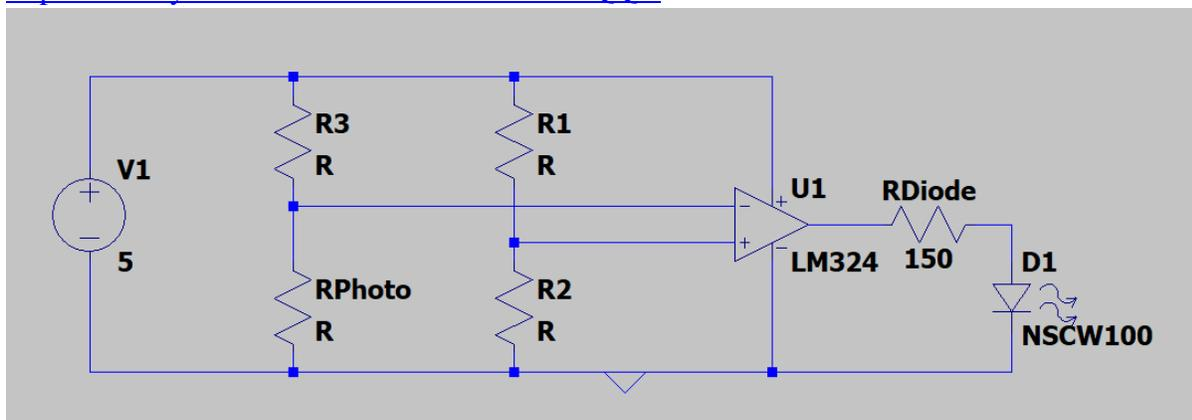

Fig. 11 A Wheatstone bridge with a photoresistor in place of R_4 , along with an op-amp and a diode (R_{Diode} is the internal resistance of the diode).
One of the many applications of a Wheatstone bridge is to generate a digital (on or off) signal from a resistive sensor. This circuit, which is shown in Fig. 11, uses an op-amp (which we will cover later this semester) to compare the photoresistor voltage (created via a voltage divider with R_3) to a known voltage that is determined by R_1 and R_2 (via a voltage divider). The circuit will generate a digital “on” (i.e. turn the LED on) when V_{ab} is positive, and a digital “off” (i.e. turn the LED off) when V_{ab} is negative. The TA will demonstrate this by showing a prebuilt circuit to you in small groups, the circuit for which is shown below. If you would like to see a video on how this circuit was built, you can view it here: <https://www.youtube.com/watch?v=iGJtnrMQQU>
1. We won't be building the complete circuit shown in Fig. 11. However, let's see the impact of having a photoresistor with a varying resistive value that depends on the light level that is incident on it. Replace R_4 in the Wheatstone bridge with your photoresistor.